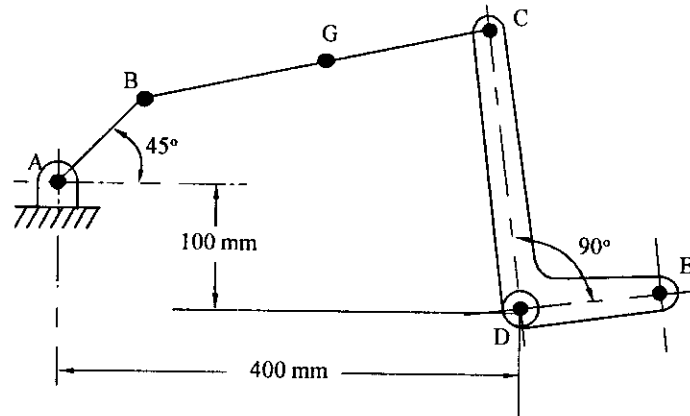

Fig. 3.36
3. A machine linkage is shown in the fig. 3.36. A and D being fixed centers, G is the center of gravity of BC. The crank AB rotates at 30 rad/s clockwise, the length of the links are AB = 100 mm, BC = 280 mm, CD = 240 mm, DE = 120 mm, and BG = 160 mm. Determine the angular velocity of the link BC and the bell crank lever CDE.